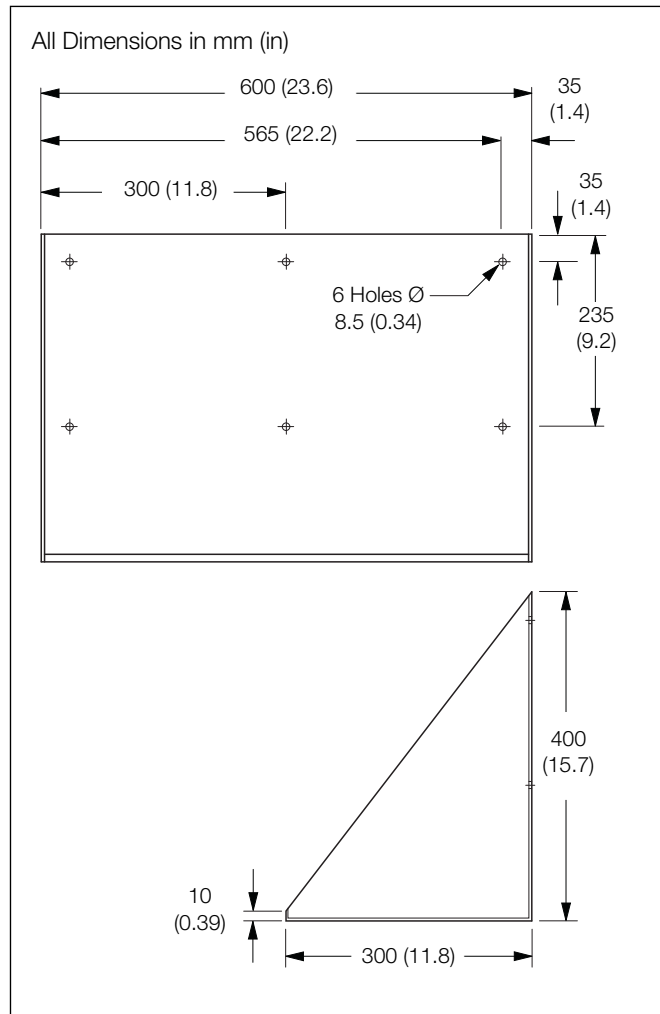

Fig. 4.3 Reagent Mounting Tray (Option)
1. Mark the wall using the dimensions shown in Fig. 4.3.